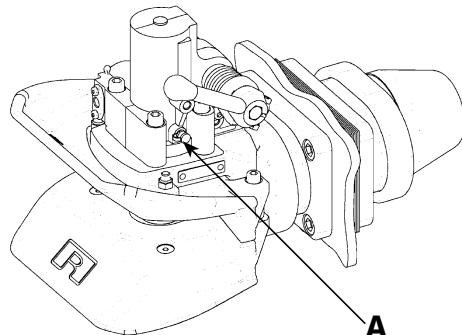

Fig. 5
- Grease automatic unit via lubricating point (A) with coupling open (see Fig. 5).